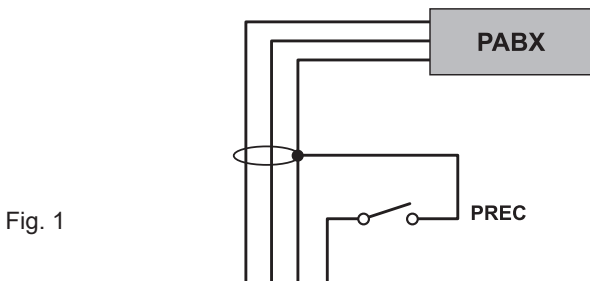

Fig. 1
The **AUX** terminals (14) are available for connecting auxiliary sources (e.g. a PABX or a base for announcements with a precedence contact). In the first case, to which Fig. 1 refers, it is necessary to fit a jumper onto connector CN9 in position "P-". In the second case, on the other hand, using a pre-amplified station of the MBT 1101 range, connection between the AUDIO OUT socket of the base and the AUX terminals has to be made as indicated in Table 1 and the jumper will have to be positioned on "P+". NOTE: Selection between modes P- and P+ must be made also via the menu (**AUDIO SETTING > set>AUX, CHIME**, page 26).